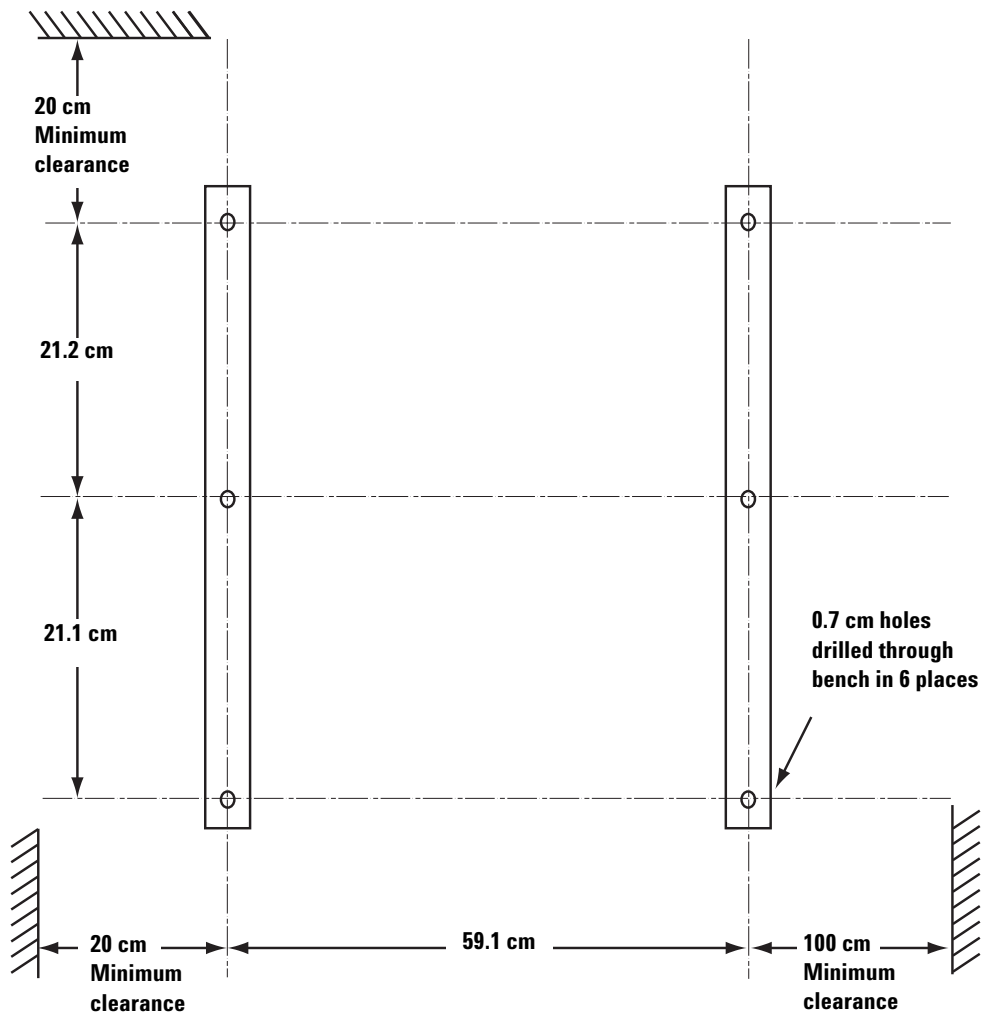

Figure 2 Bolt pattern
- 1 Drill (6) holes in the laboratory bench for securing the instrument as shown in Figure 2.